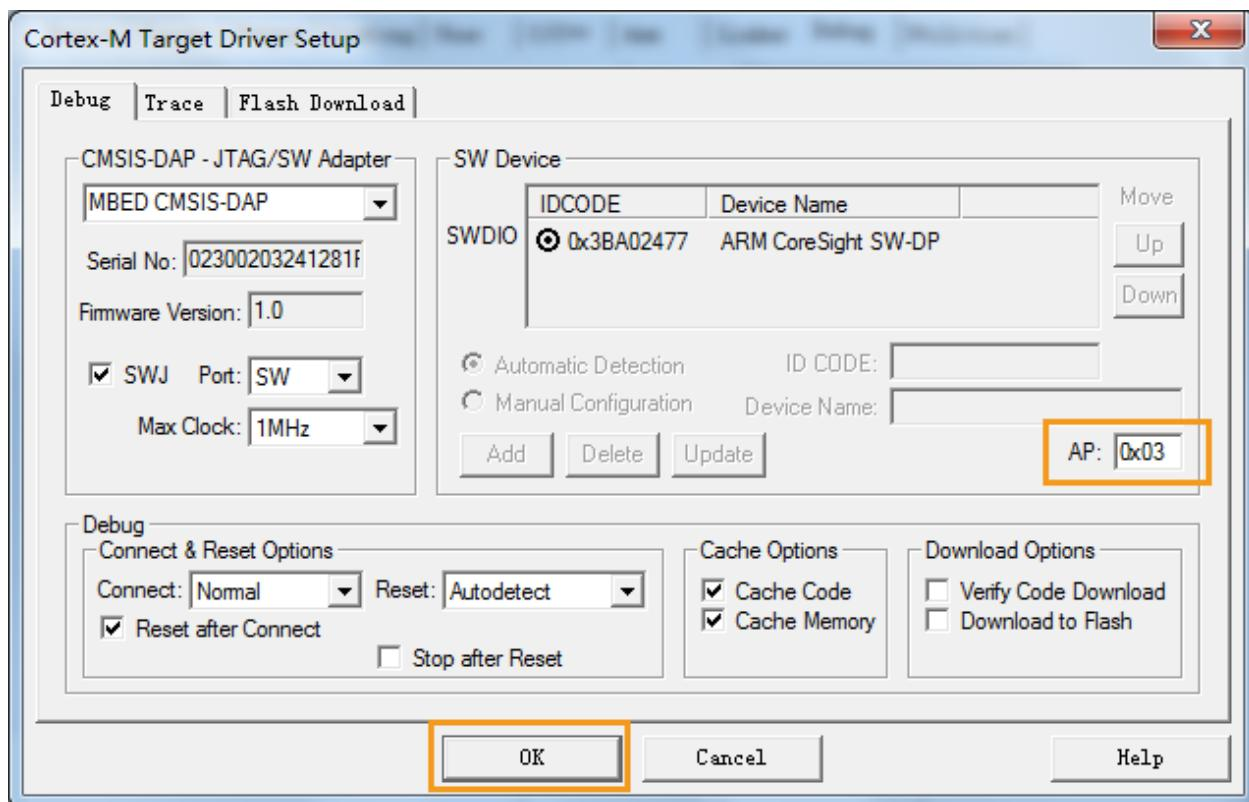

Figure 56. Setup the parameters for downloading the project on LinkIt 2523 HDK
- 8) If downloading on LinkIt 2523 HDK, switch to **Debug**, and set **AP** as **0x03** then click **OK** (see Figure 56). Skip this step, if downloading on the LinkIt 7687 HDK.